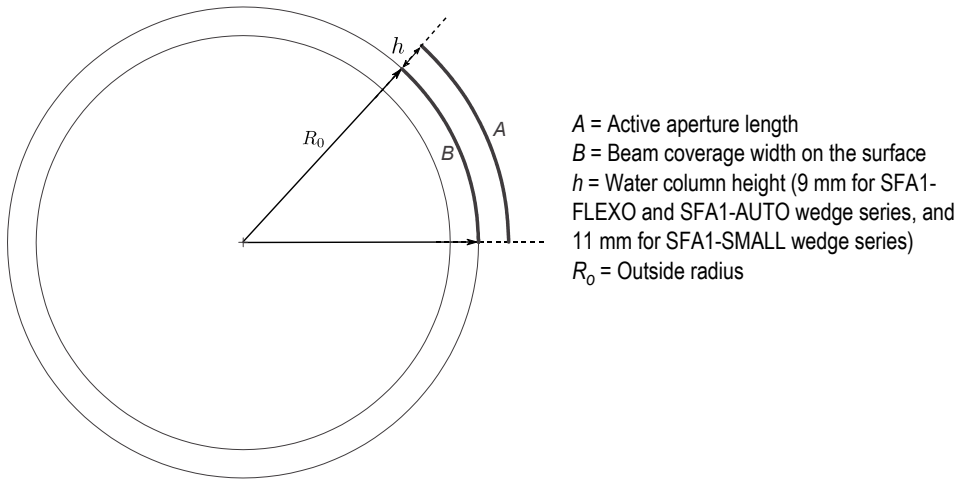

Figure 4-5 Variables for calculating probe beam width on the surface
It is also possible to calculate the corrected value using equation (1) on page 43. The equation's variables are illustrated in Figure 4-5 on page 43.